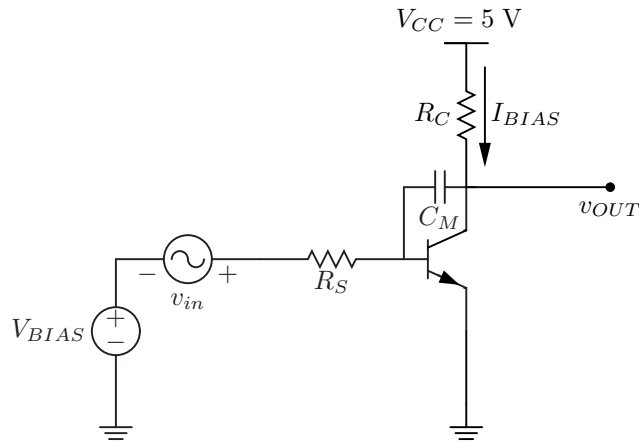

Figure 2: “Miller” capacitor test setup
1. The Miller effect can be best examined by introducing a “Miller” capacitor across the gain. Let’s take a look at the impact of Miller effect by adding a 1 nF capacitor for C_M as shown in Figure 2.